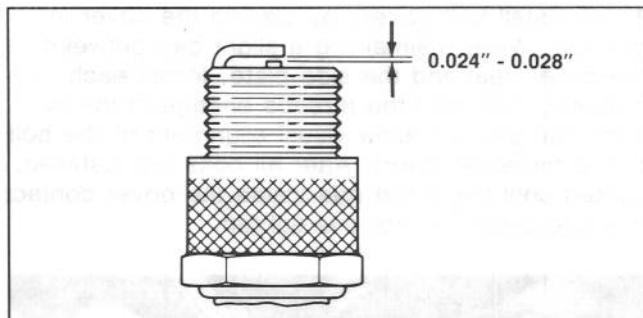

Figure 33
3. Set air gap at **0.024" - 0.028"** (Fig. 33). Install correctly gapped spark plug and tighten firmly to 20 ft-lb.